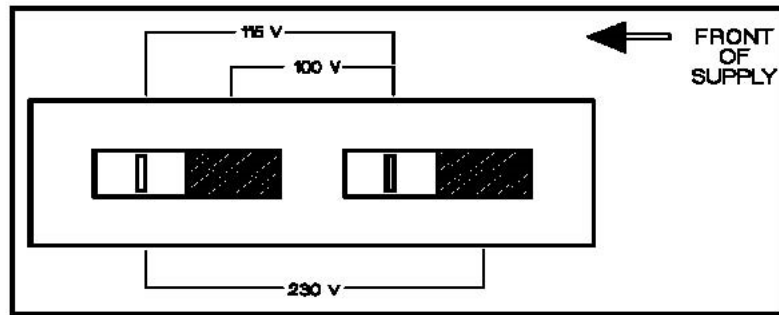

Figure 1-4 Line Voltage Selector (set for 115 VAC)
- 1 After making certain that the line cord is disconnected from a source of power, remove the top cover from the supply and set the two sections of the line voltage selector switch for the desired line voltage (see **Figure 1-4**).